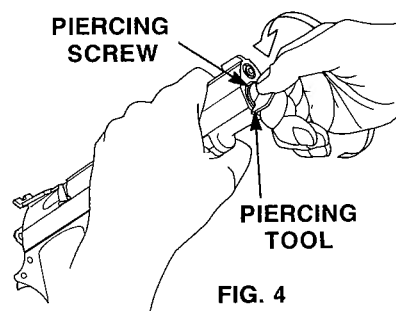

FIG. 4
- Pointing the pistol in a safe direction, hold on-to slide with one hand. (Fig. 4) With the other hand insert the tool provided or a coin into the piercing screw and turn it counterclockwise. (Fig. 4) Never use any other type of tool on the piercing screw. It could result in damage to the screw.